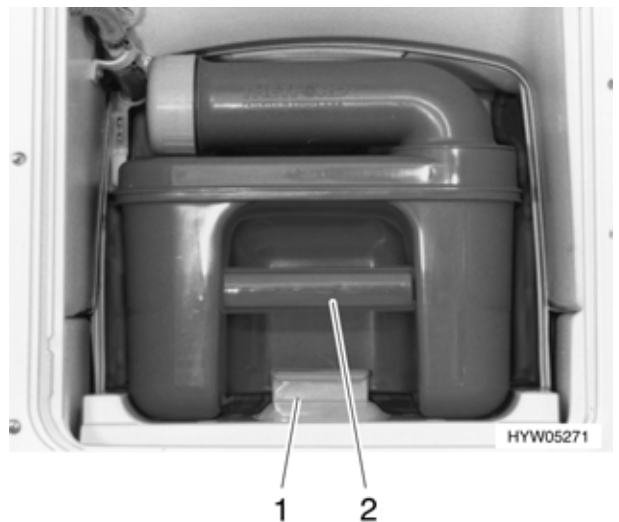

Fig. 153 Removal of the Thetford cassette
- Release safety catch (Fig. 153,1) and pull out the Thetford cassette (Fig. 153,2).